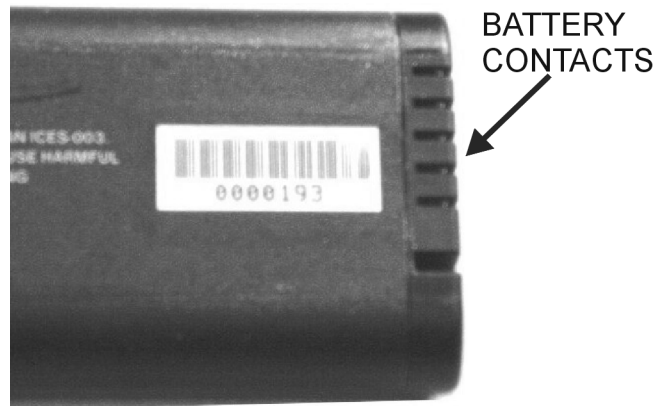

Figure 8. Battery Contacts
5. Replacement is the opposite of removal. Note the orientation of the battery contacts, and be sure to insert the new battery with the contacts facing the bottom of the unit, as illustrated in Figure 8.